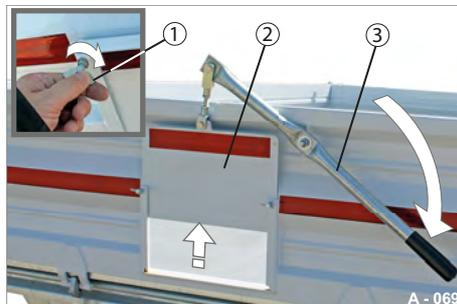

Fig. 91 Dosing slider, open
- ▶ Press the operating lever (Fig. 91/3) downwards.
- ▶ Fasten the sliding flap (Fig. 91/2) open with the wing bolts (Fig. 91/1).
- ▶ Press the operating lever (Fig. 91/3) upwards until the sliding flap is completely closed.
- ▶ Fasten the sliding flap (Fig. 91/2) closed with the wing bolts (Fig. 91/1).